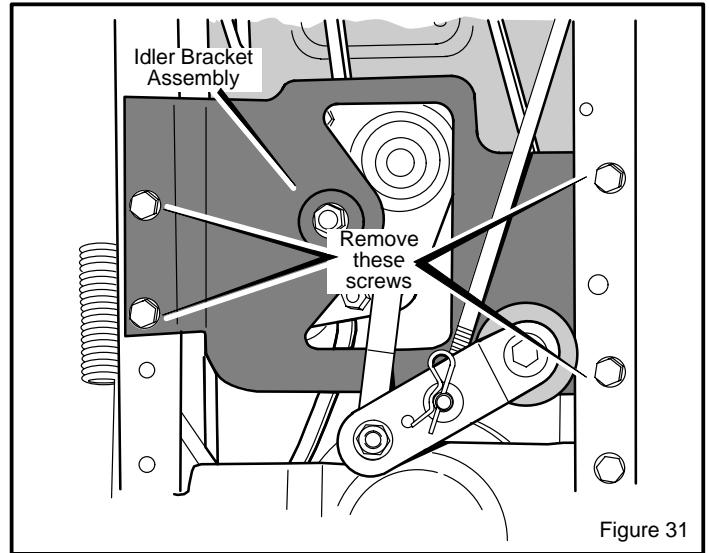

Figure 31
7. Remove the **four screws** that hold the **idler bracket assembly** (see Figure 31).